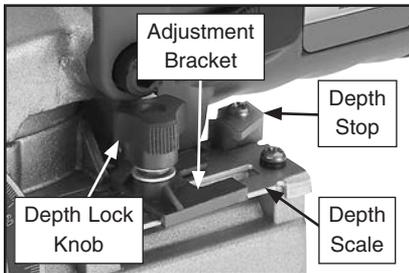

Figure 6. Cutting depth controls.
1. Loosen depth lock knob (see **Figure 6**).